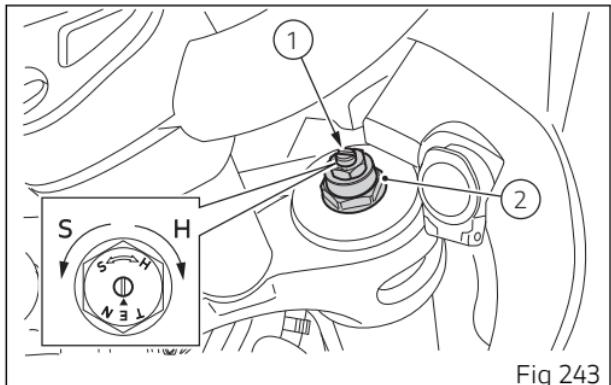

Fig 243
- 1) for rebound damping (Fig 243);
- 2) for inner spring preload (Fig 243);